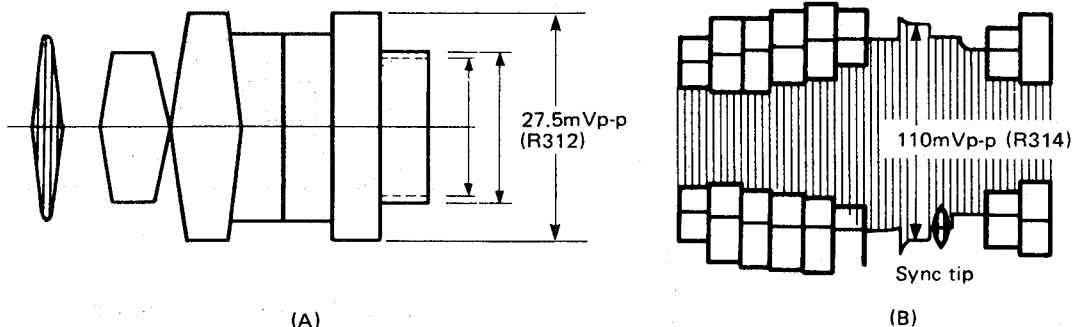

Figure 96.
- 3) Adjust R306 (record balance control) so as to make the two channels well balanced as shown in Fig. 96-(A).
5. Adjust R314 (record FM level control) so that the record FM level attained in the step (2) will be 110 mVp-p as shown in Fig. 96-(B).
6. Adjust R312 (record colour level control) so that the burst level will be 27.5 mVp-p as shown in Fig. 96-(A).